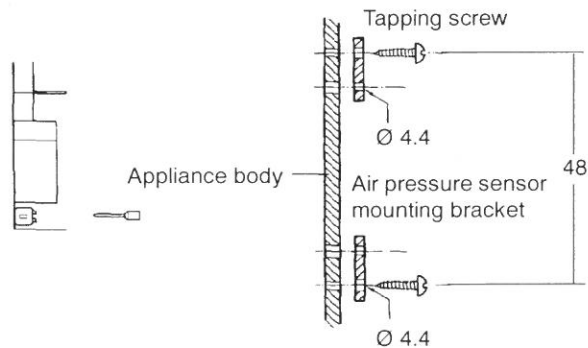

Fig. 6. Front mounting methods and dimensions
- Front mounting (see fig. 6.)
Mounting dimensions are also shown in fig. 6. and 7.